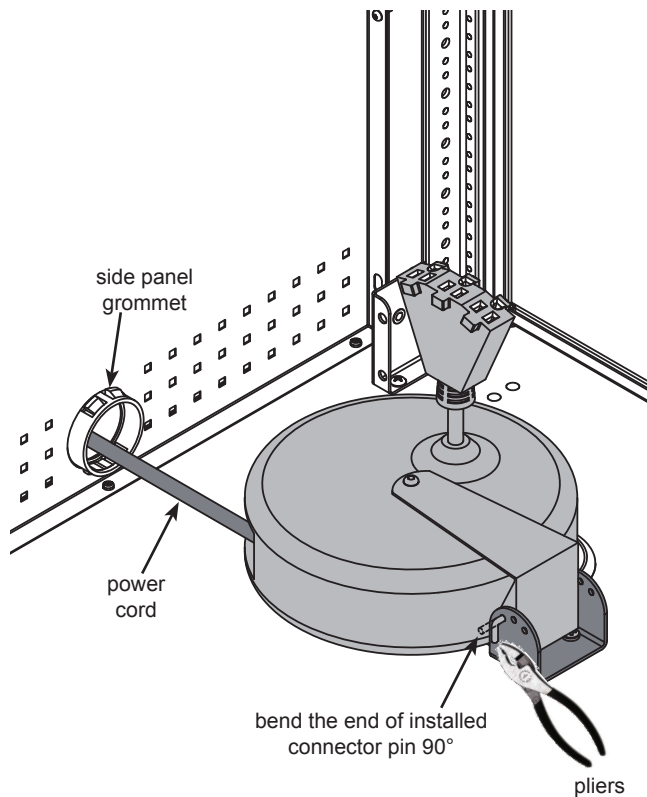

Figure 1B
4. Using pliers, bend the end of the connector pin to a 90° angle to secure the assembly. **Figure 1B.**